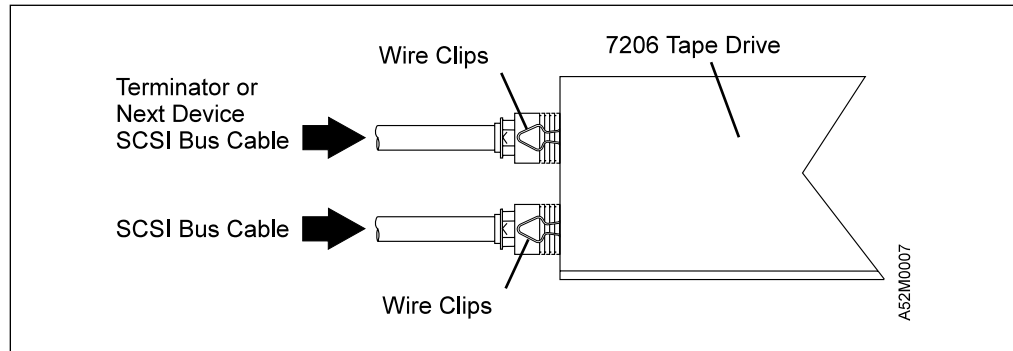

Figure 4. Connecting the SCSI Bus Cable to the 7206 Tape Drive
- \_\_\_ 2. On the rear of the 7206 Tape Drive, insert the device connector end of the SCSI bus cable into one of the connectors. See Figure 4.